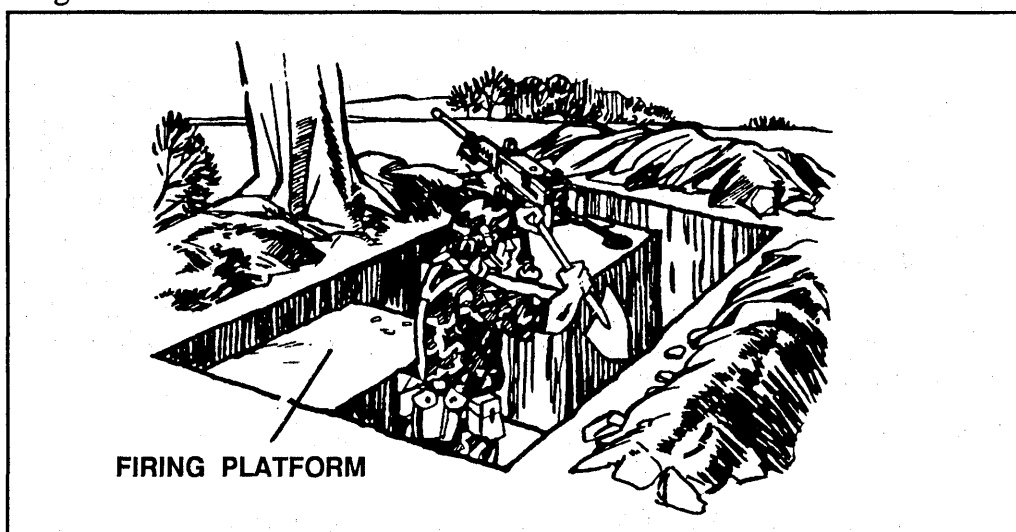

Figure D-3. Digging the fighting position.
c. The crew digging the hole uses the dug-up dirt to build up the cover—first for frontal cover and then for flank and rear cover. They dig the hole deep enough to protect the crew and still let the gunner shoot with comfort (usually about armpit deep) (Figure D-3). They fix the tripod legs in place by digging, sandbagging, or staking them down. This will ensure that the gun does not shift during firing, which would render the range card data useless.